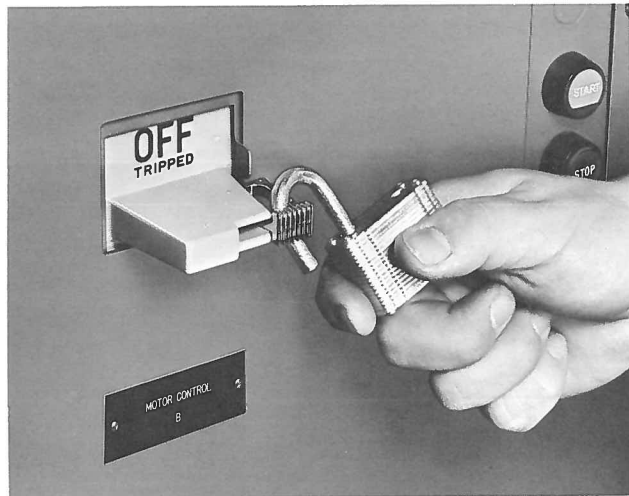

Fig. 17 Padlocking of Handle
10. To positively lock the operating mechanism in either the "ON" or "OFF" position and to prevent the door opening, a metal locking bar recessed at the handle end may be extended and padlocked with from one to three padlocks (Figure 17).